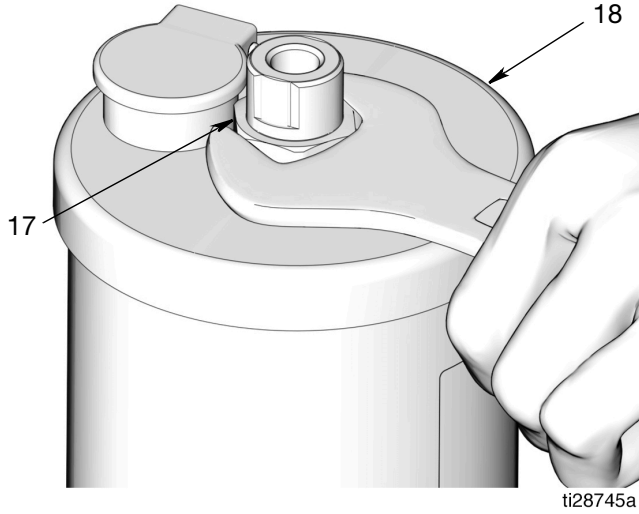

FIG. 14
- 10. Use a wrench to loosen and remove the nut (17) from the reservoir cover (18) (FIG. 14).